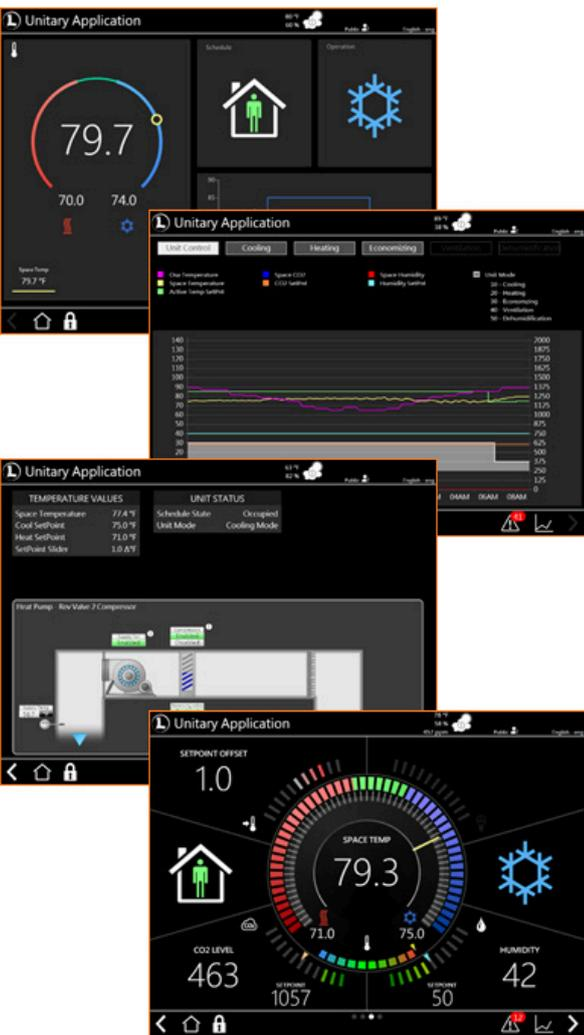

Figure 6: Automatically generated monitor and control graphics
- Auto-generated graphics (Fig. 6)
Automatically generated monitor and control graphics are immediately available for users (Fig. 6). In custom mode, the user can reposition components such as fan and coil positions for custom renderings (Fig. 6a).